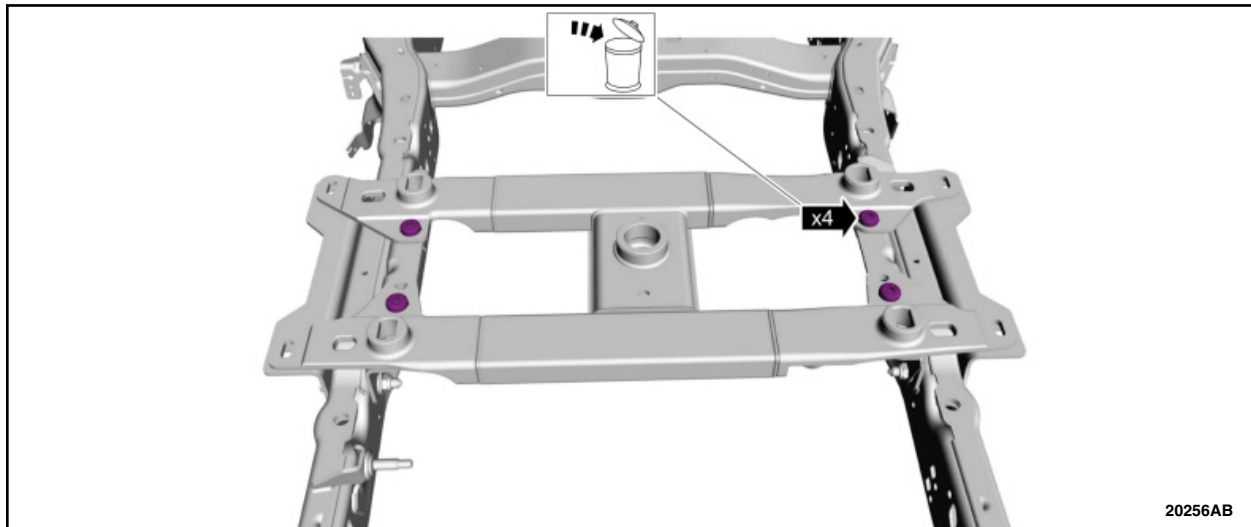

FIGURE 18
25. If equipped with the hitch assembly, remove and discard the hitch-to-inner bracket bolts. See Figure 18.